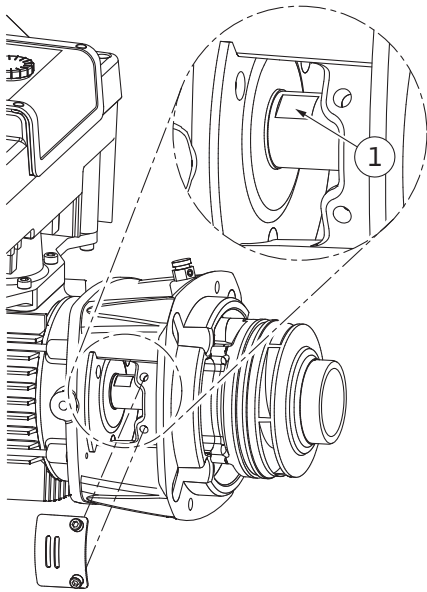

Fig. 105: Wrench flats on the shaft
14. Insert an open-end wrench (22 mm width across flats) into the lantern window and hold the shaft by the wrench flats (Fig. 105, Item 1). Unbolt the impeller nut (Fig. I, Item 22). The impeller (Fig. I, Item 21) is automatically pulled off the shaft.
3. Insert an open-end wrench (22 mm width across flats) into the lantern window and hold the shaft by the wrench flats (Fig. 105, Item 1).
10. Insert an open-end wrench (32 mm width across flats) into the lantern window (Fig. IV, Item 38) and hold the shaft by the wrench flats (Fig. 105, Item 1). Install the impeller with washer(s) and nut. Tighten the nut. Avoid damage to the mechanical seal due to jamming.